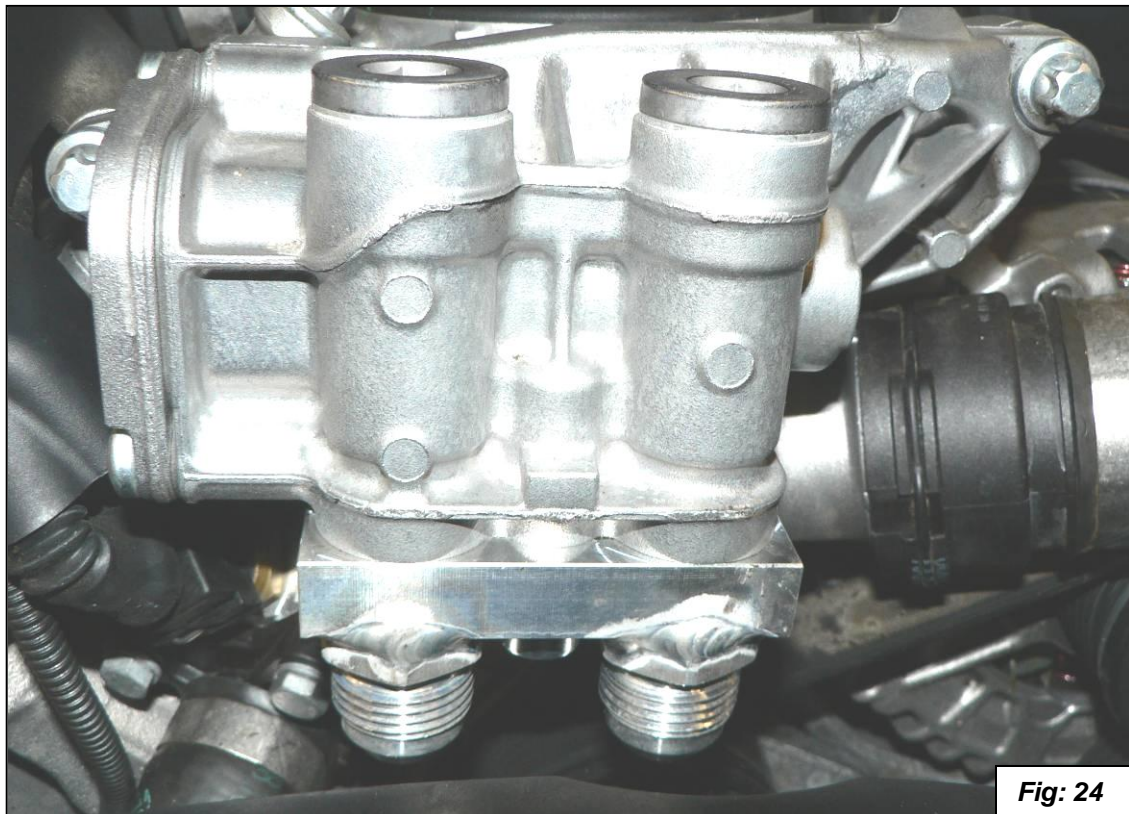

Fig: 24
25. Install the oil line adapter block onto the oil filter thermostat housing. Make sure the O-Rings don't get pinched as you install the block. Torque the bolt to 20Nm (15ft-lbs.). See figure 24.